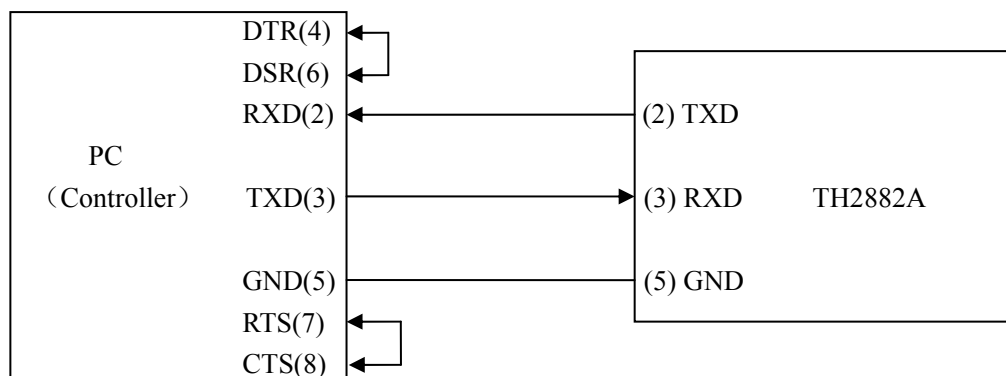

Figure 5-2 Connection of the instrument with PC
- The connection of the instrument with PC is shown in figure 5-2.
Figure 5-2 shows that the serial interface pin definition of this instrument is different from that of 9 pin connector used in IMB AT compatible computer. User can make three-wire connection cable (the length should be less than 1.5m) by using double-core shielding lines or